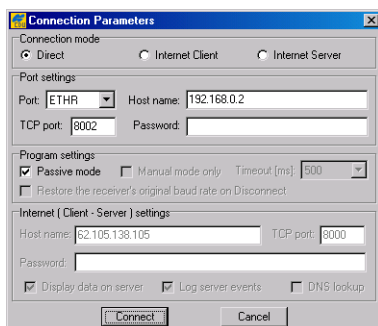

Figure 1-5. Ethernet Connection Parameters
10. Click **Connect** (Figure 1-5 on page 1-16).
12. Click **Connect** (Figure 1-5 on page 1-16).